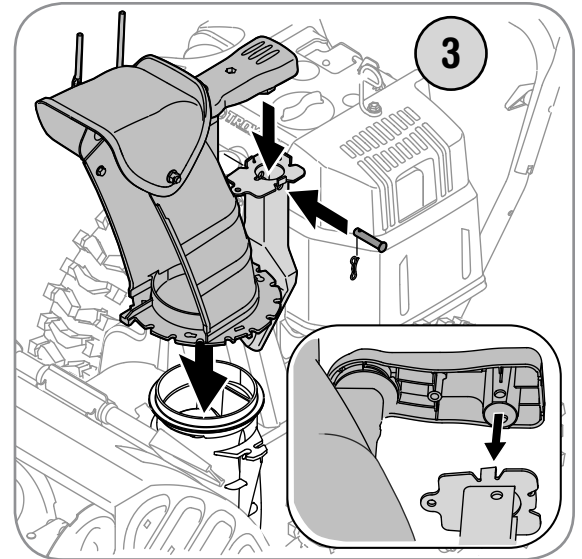

Figure 3
3. Place chute assembly onto chute base and secure chute control assembly to chute support bracket with clevis pin and cotter pin removed earlier. See Figure 3.